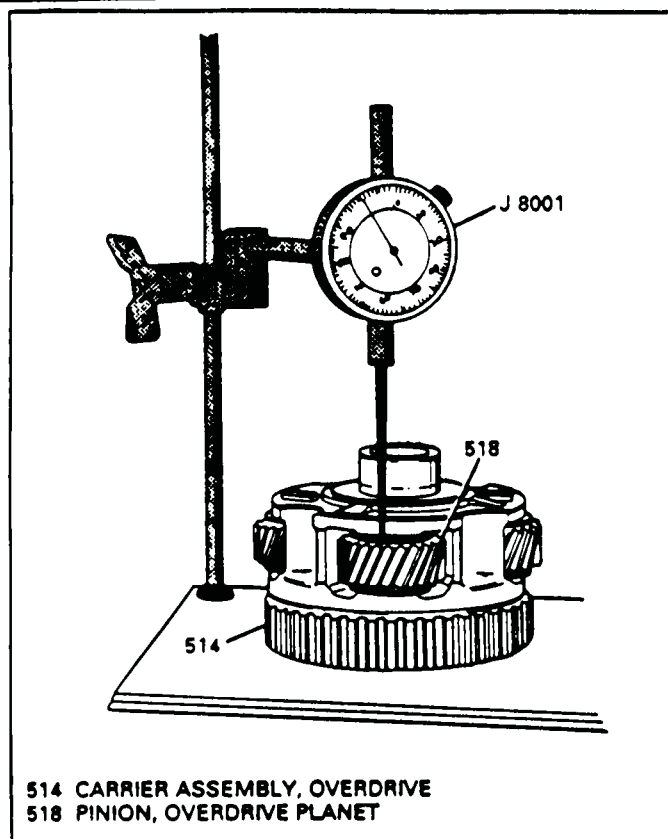

Figure 97
1. Measure overdrive carrier pinion end play, with dial indicator, as shown in Figure 97.